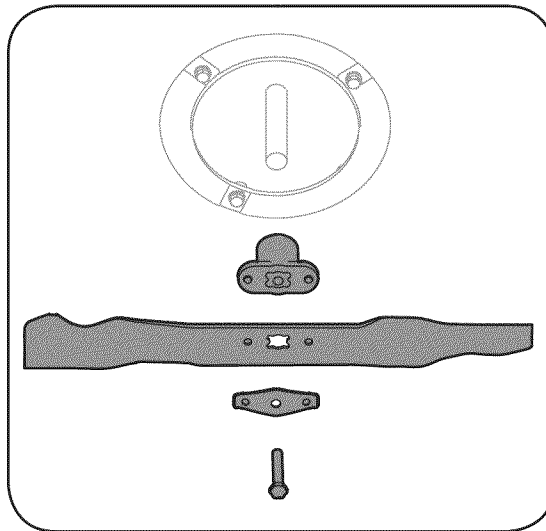

Figure 5-3: Remove bolt and bell support to gain access to the blade.
2. Remove bolt, blade bell support, blade, and blade adapter from the engine crankshaft. See Figure 5-3.
4. Remove blade, adapter, and related hardware as instructed under "Blade Care" above. See Figure 5-3.